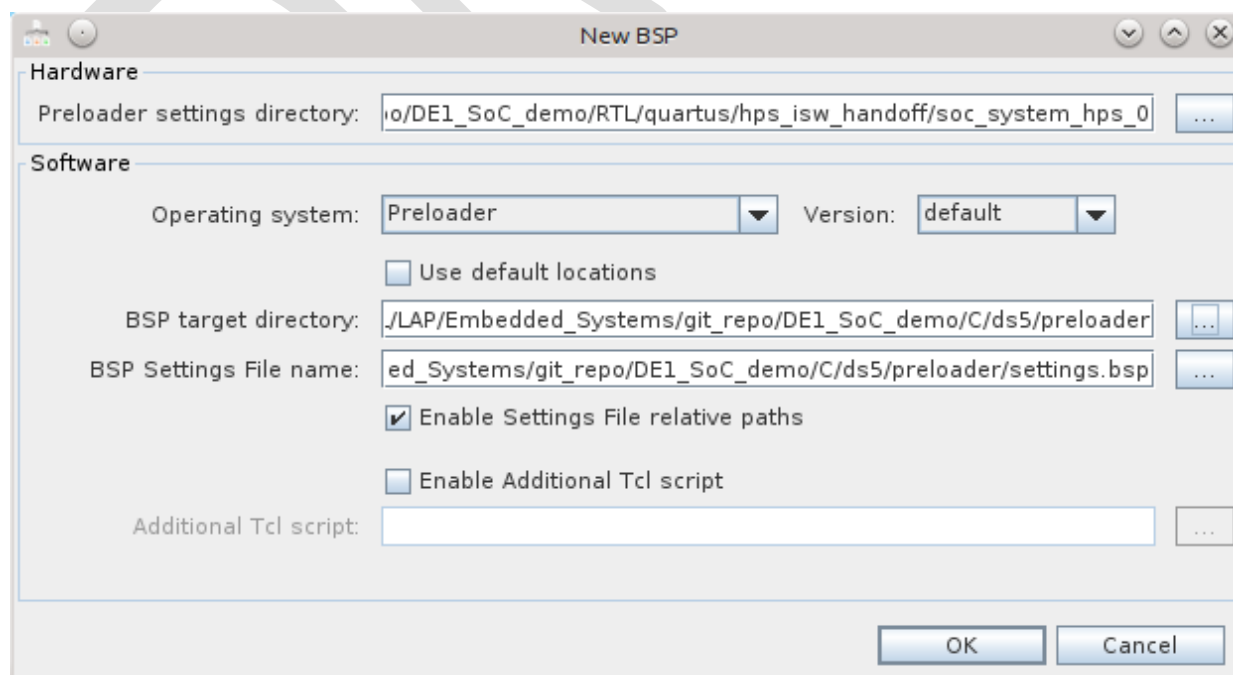

Figure 8-20. New BSP Dialog
- b. Disable the "Use default locations" checkbox and under the "BSP target directory", select the "DE1\_SoC\_demo/C/ds5/preloader" directory. You should have something similar to Figure 8-20.